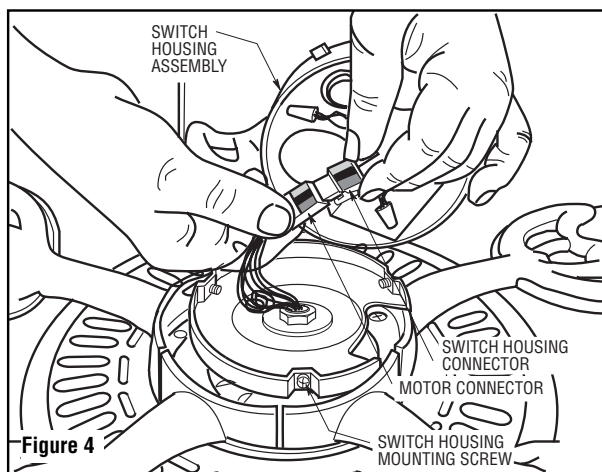
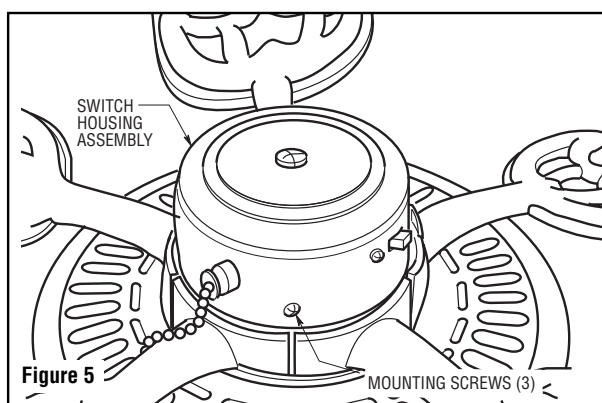

Figure 4
Figure 5
10. Engage the connector of the switch housing assembly with the motor connector (Figure 4). The two connectors are keyed and color-coded and must be mated correctly (color-to-color) before they can be engaged. Make sure the connector latch closes properly.
11. Remove the three switch housing mounting screws (Figure 4) from the switch housing plate. Position the switch housing assembly on the switch housing plate and align the holes in the switch housing assembly with the holes in the plate. Secure the switch housing assembly by installing the three mounting screws (Figure 5).